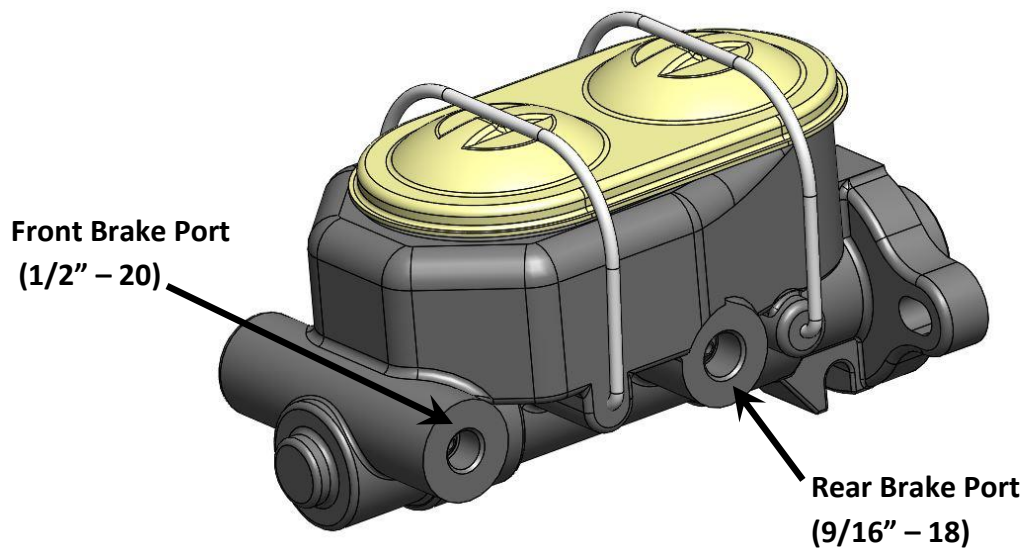

Figure 1 - Brake Line Orientation
8. Route the brake lines from the master cylinder to whatever valve is being used in the system. Refer to Figure 1 on the next page for proper orientation of the brake lines to the master cylinder. If installing with a Master Power Brakes Combination Valve and bracket, refer to those instructions on proper plumbing of the valve.